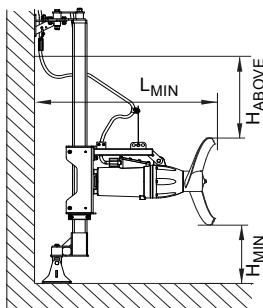

Fig. 7 Positioning sketch for mixers
- The distance between the propeller tip and the bottom of the tank, H_{MIN} in fig. 7, should be half of the propeller diameter.
- The distance from the propeller tip to the liquid surface, H_{ABOVE} in fig. 7, should be at least equal to the propeller diameter.
- The distance between the propeller tip and the wall behind the mixer, L_{MIN} in fig. 7, should be at least 1.5 times the propeller diameter.